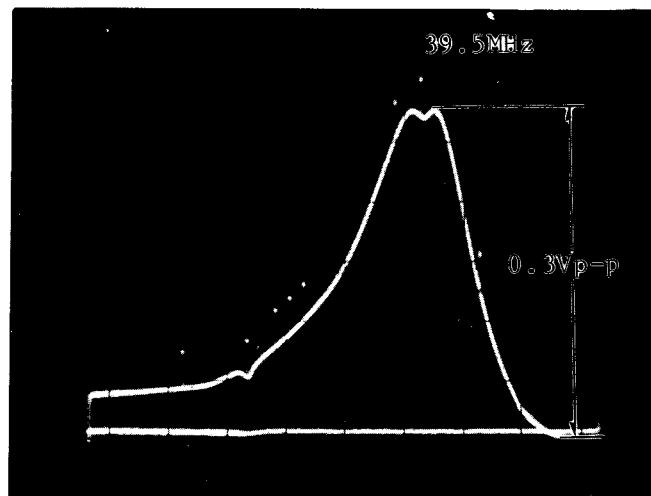

Fig. E15.
9. After this completed adjustment, adjust T706 so that 39.5MHz marker position is shown in Fig. E15.